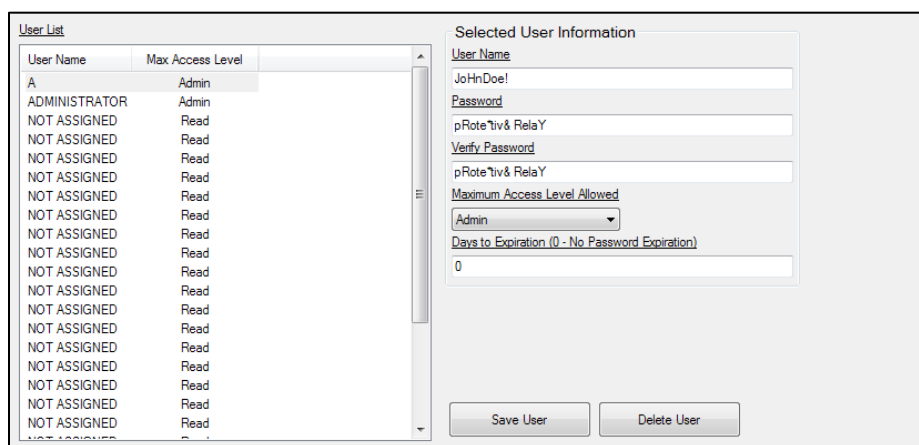

Figure 36-2. Username Setup Screen
3. Only an administrator can modify usernames and passwords on the Username Setup screen (Figure 36-2). Complex usernames and passwords up to 16 characters in length are accepted. Acceptable characters include uppercase letters, lowercase letters, numbers, and certain special characters.